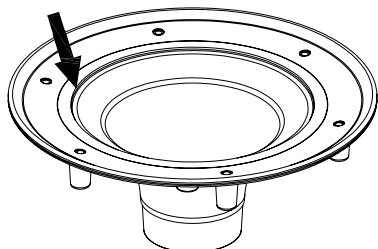

Fig. 2
Step 3 – Cut the membrane as per the roof membrane manufacturer's requirements in the center of the clamping collar. Continue to cut outward until the precast cutting edge in the drain body is located (Fig 2). Once precast edge is found, cut out circular section of membrane by following the cutting edge.